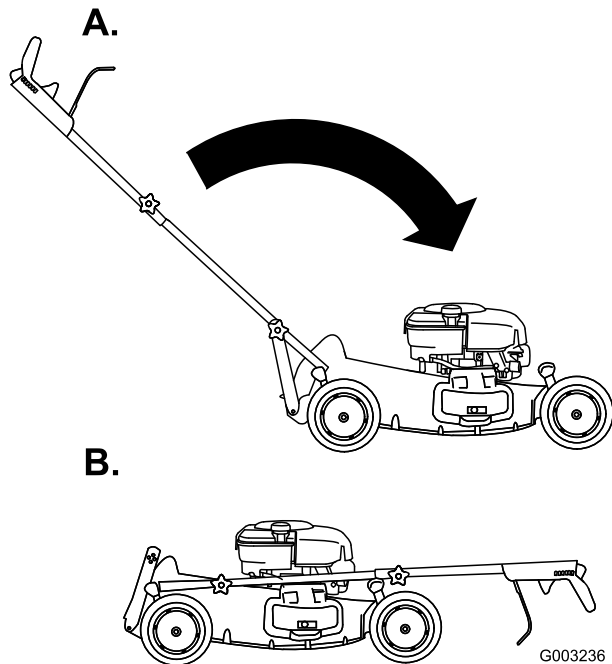

Figure 48
3. Rotate the handle forward (Figure 48).